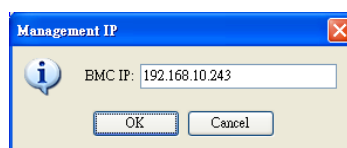

Figure 2-10. Updating the BMC IP
5. **BMC:** Shows BMC status. If BMC is installed, the BMC IP address will appear here. Use the Update button (Update) to update the BMC IP as shown in Figure 2-10. Use the refresh button (Refresh) to reload the BMC IP. If BMC is not installed “not installed” appears and the Update and Refresh buttons are both disabled.